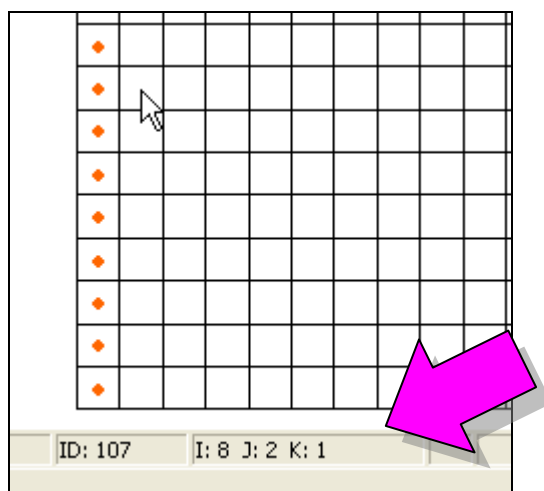

Figure 3. *ijk* indices of cell under cursor.
2. Notice that as you move the cursor across the grid, the *ijk* indices of the cell beneath the cursor are displayed in the *Edit Window* at the bottom of the screen, as shown in Figure 3.